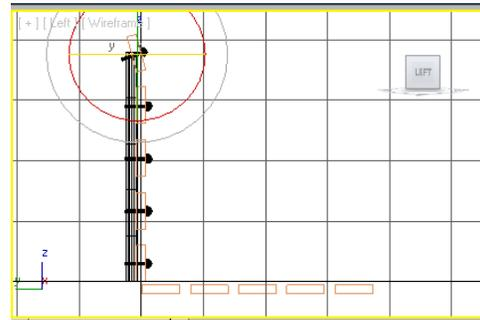

Figure 2-72 Rotating the uppermost rivet
5. Select the uppermost rivet and choose the **Select and Rotate** tool. Now, rotate the uppermost rivet by using the outermost ring of the **Select and Rotate** tool in the counterclockwise direction until the value in the **X** spinner in the coordinate display becomes **-20**, refer to Figure 2-72.